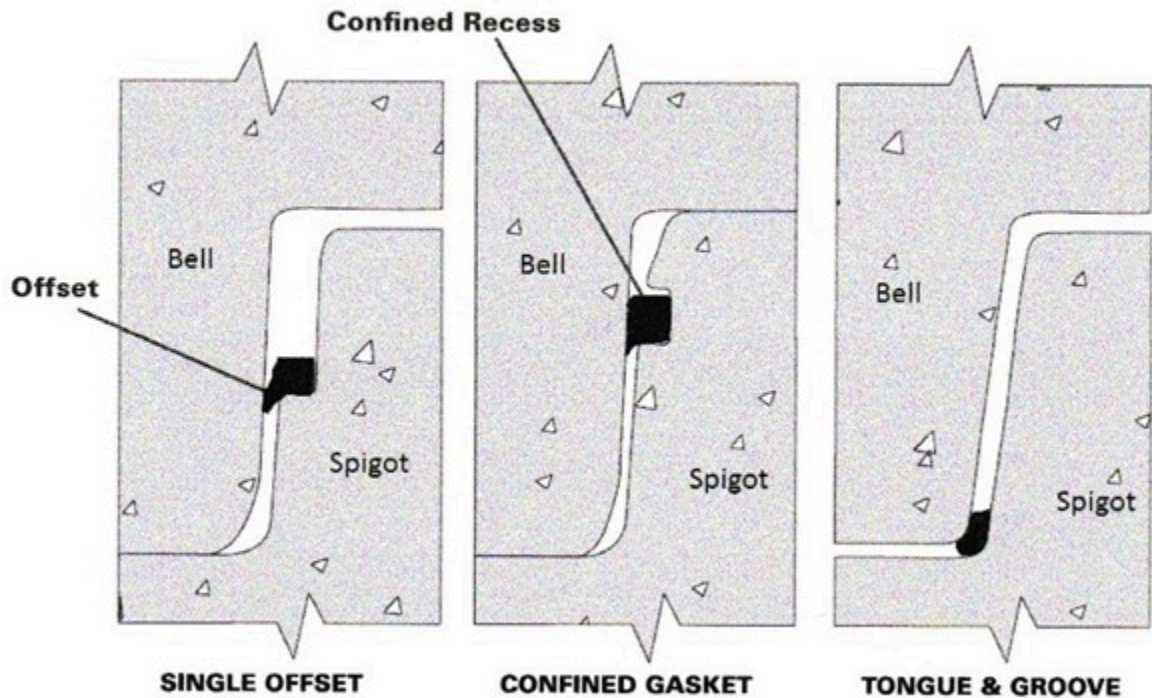

Figure 2 Manhole section seals
- Figure 2 Manhole section seals © photo courtesy of the National Precast Concrete Association (<https://precast.org/>).